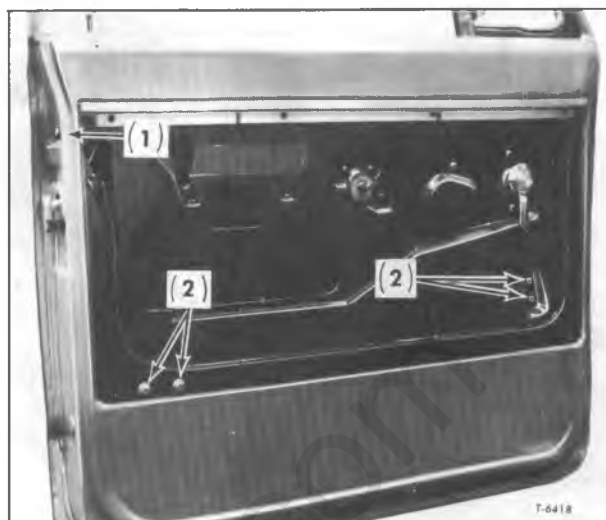

Figure 19—Vent Assembly Inner Door Panel Attachment
4. Remove the bottom two screws directly below the window regulator mechanism (fig. 19).